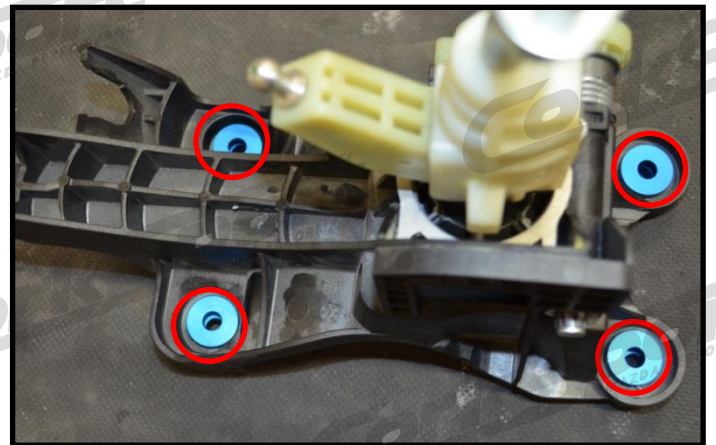

Figure 2c
d) Place the four top CorkSport shifter bushings on top of the shifter housing (as shown in Figure 2c with red circles).